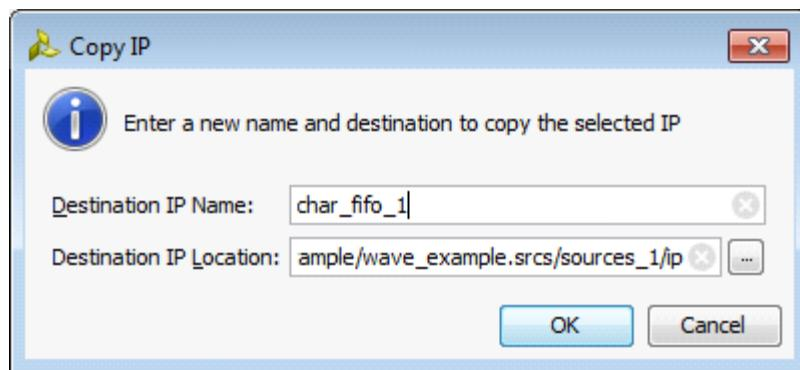

Figure 2-24: Copy IP Dialog Box
2. Provide a destination name and location for the copy, as shown in Figure 2-24.